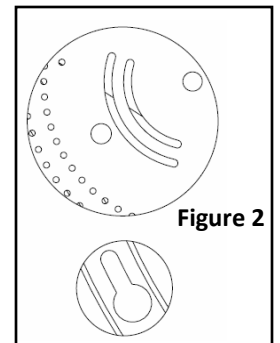

Figure 2
- A. Install fixture by securing the ceiling pan (1) to the junction box (not provided) using provided screws (6) and the semi-circular slots and/or outer keyhole slots (**Figure 2**). **Note:** over-tightening can warp/bend the ceiling pan